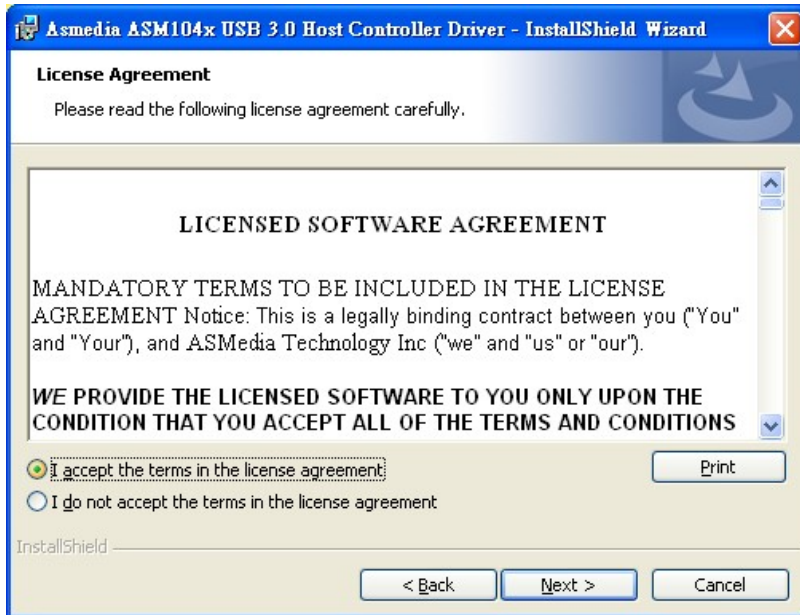

Figure 6-32: USB 3.0 Driver License Agreement
Step 6: The License Agreement shown in Figure 6-32 appears.